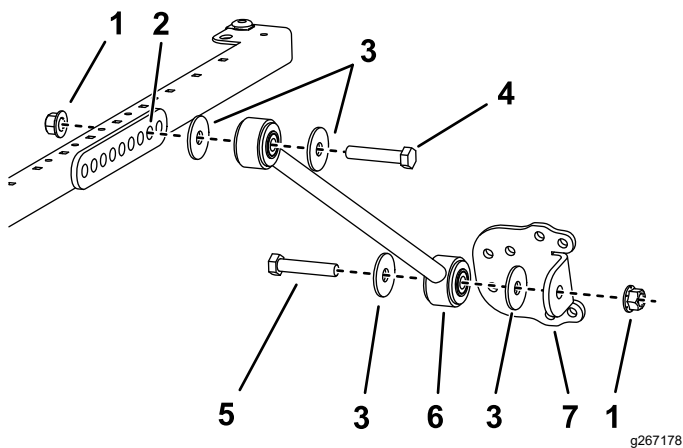

Figure 31
- For Models 30446, 30446N, 30447, and 30447N, on each side of the sunshade frame, loosely mount a brace to the **second** hole of the brace bracket with a bolt (1/2 x 2-1/2 inches), washer (1/2 inch), and flange nut (1/2 inch) as shown in Figure 31.